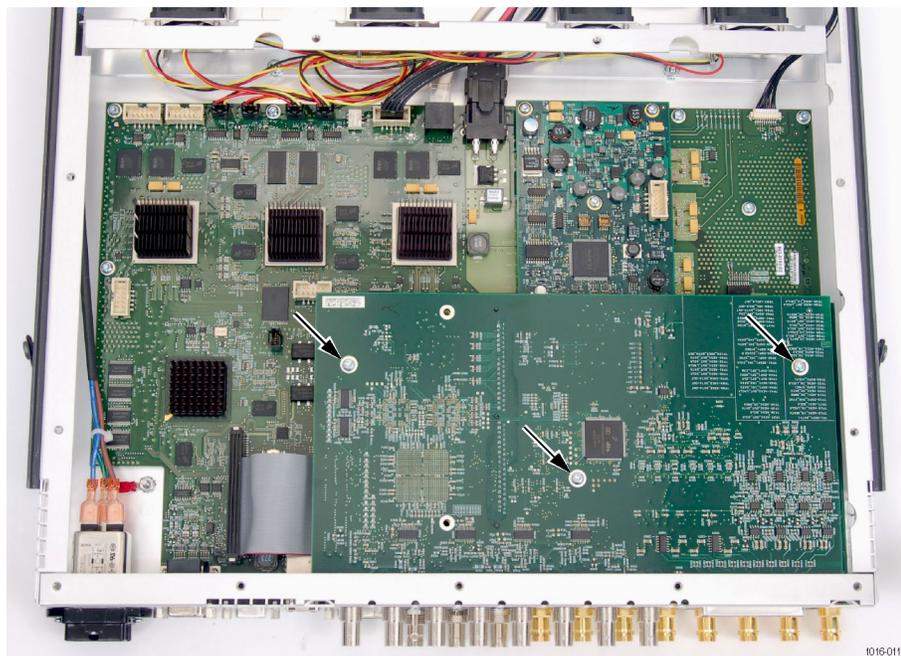

Figure 19: Audio board installed
1. Inspect the instrument for the presence of an Audio board option. (See Figure 19 on page 32.)
1. Inspect the instrument for the presence of an Audio board option. (See Figure 19.)
4. Remove the three T-15 screws securing the audio board. (See Figure 19.)